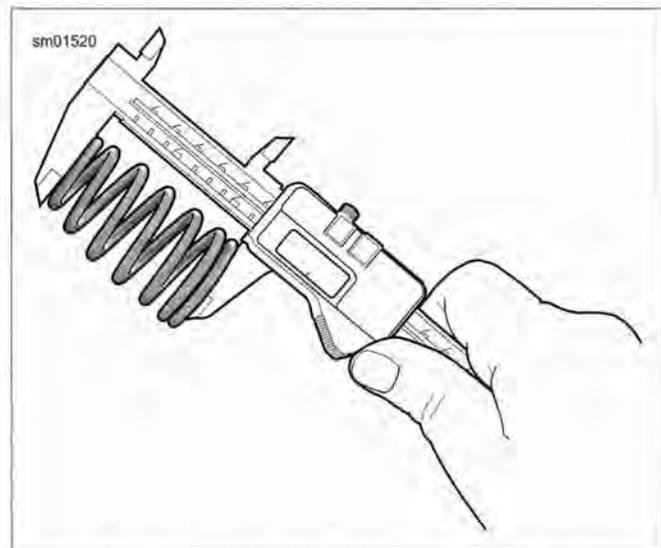

Figure 3-58. Checking Spring Free Length
2. See Figure 3-58. Check free length of each spring with caliper as shown. Test compression force of spring using VALVE SPRING TESTER (Part No. HD-96796-47). Compare with 3.2 SPECIFICATIONS. If spring length is